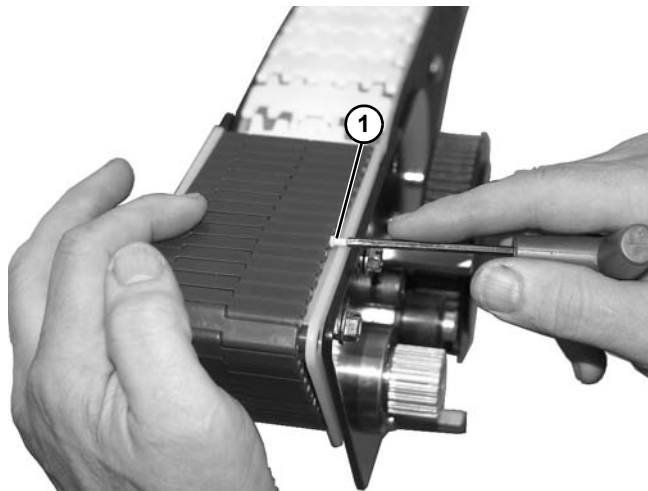

Figure 174
7. Bring ends of belt together and install pin (**Figure 174, item 1**).